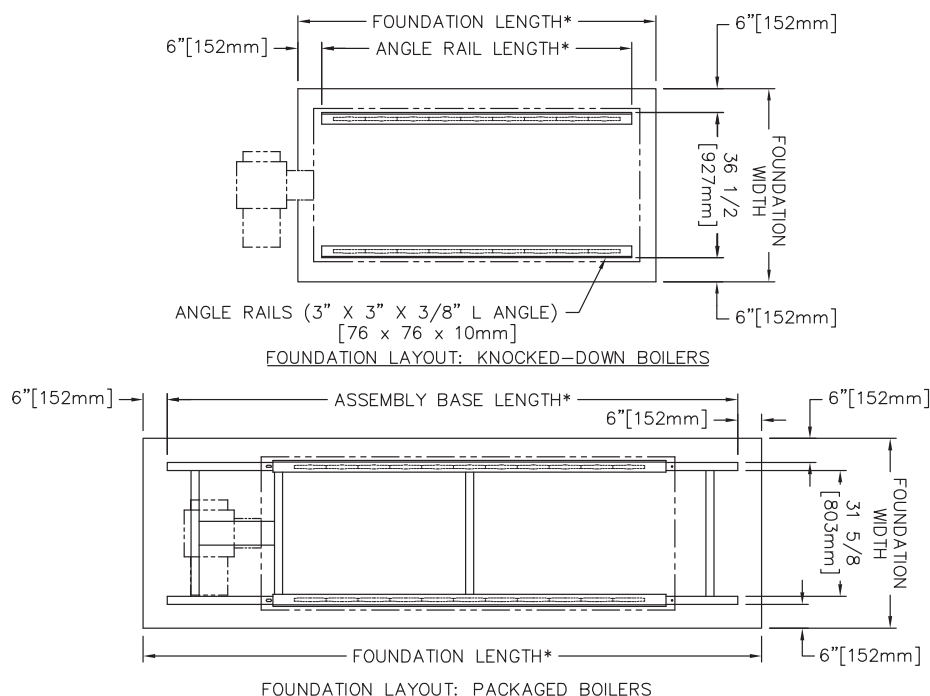

Figure 1.4: Foundation Layout
- a) Figure 1.4 shows the Foundation Layout for Knocked-Down Boilers and Packaged Boilers.